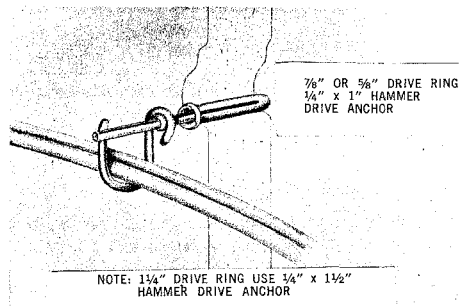

Fig. 6A - Drive Rings
- Install rings on brick or masonry surfaces with hammer drive anchor as indicated in Fig. 6A.